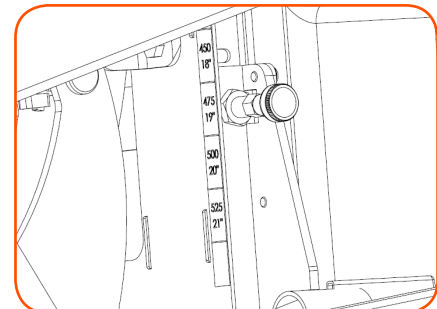

FIGURE 16
4. Pull and hold the caps of the two plungers to release the footplate height frame and move the footplate to the desired height measurement. The footplate height measurement can be read off the scale located at the rear of the legrest (Fig 16).